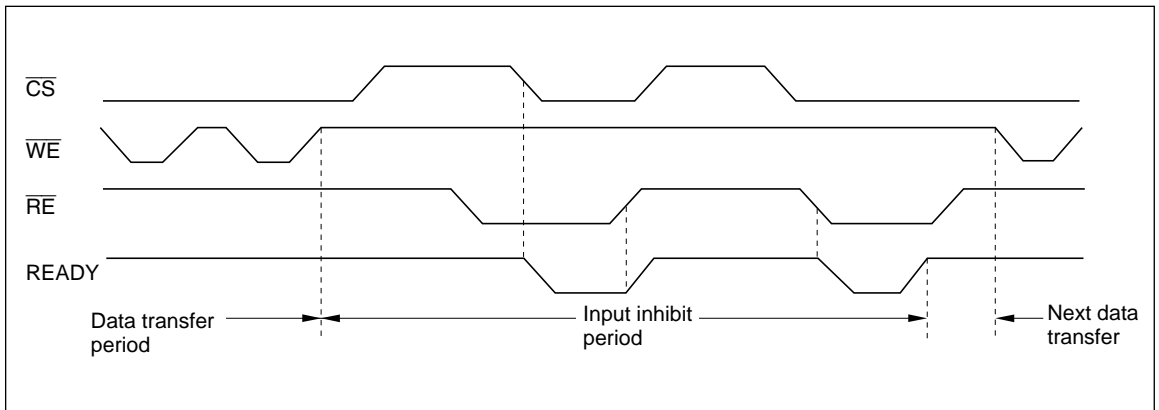

Figure 15 READY Output Timing (When It Is Made Available by \overline{CS} and \overline{RE})
- READY is mode available by \overline{CS} and \overline{RE} (figure 15).